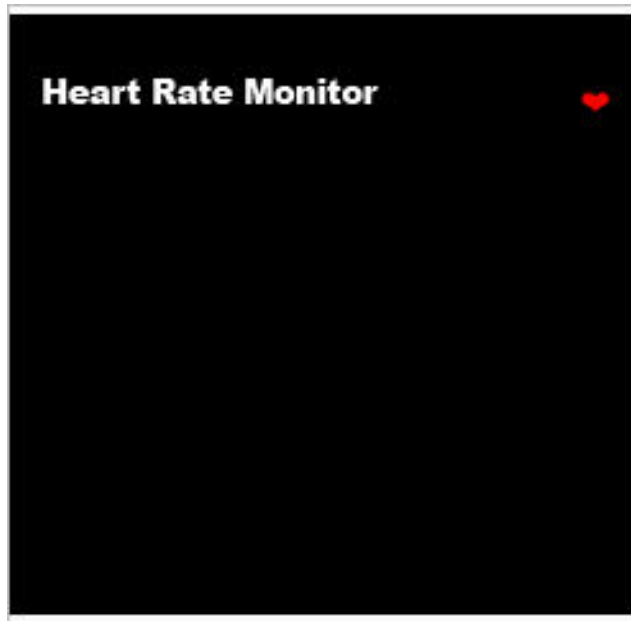

Figure A-14. Room screen background
1. D4D_Picture: The Room screen background is shown in Figure A-14 and the D4D_Picture configuration is the same as in home screen background in Creating the Home screen.
2. D4D_Button: The button's background pictures are shown in Figure A-14 and the D4D_Button configuration is explained in Creating the Home screen.